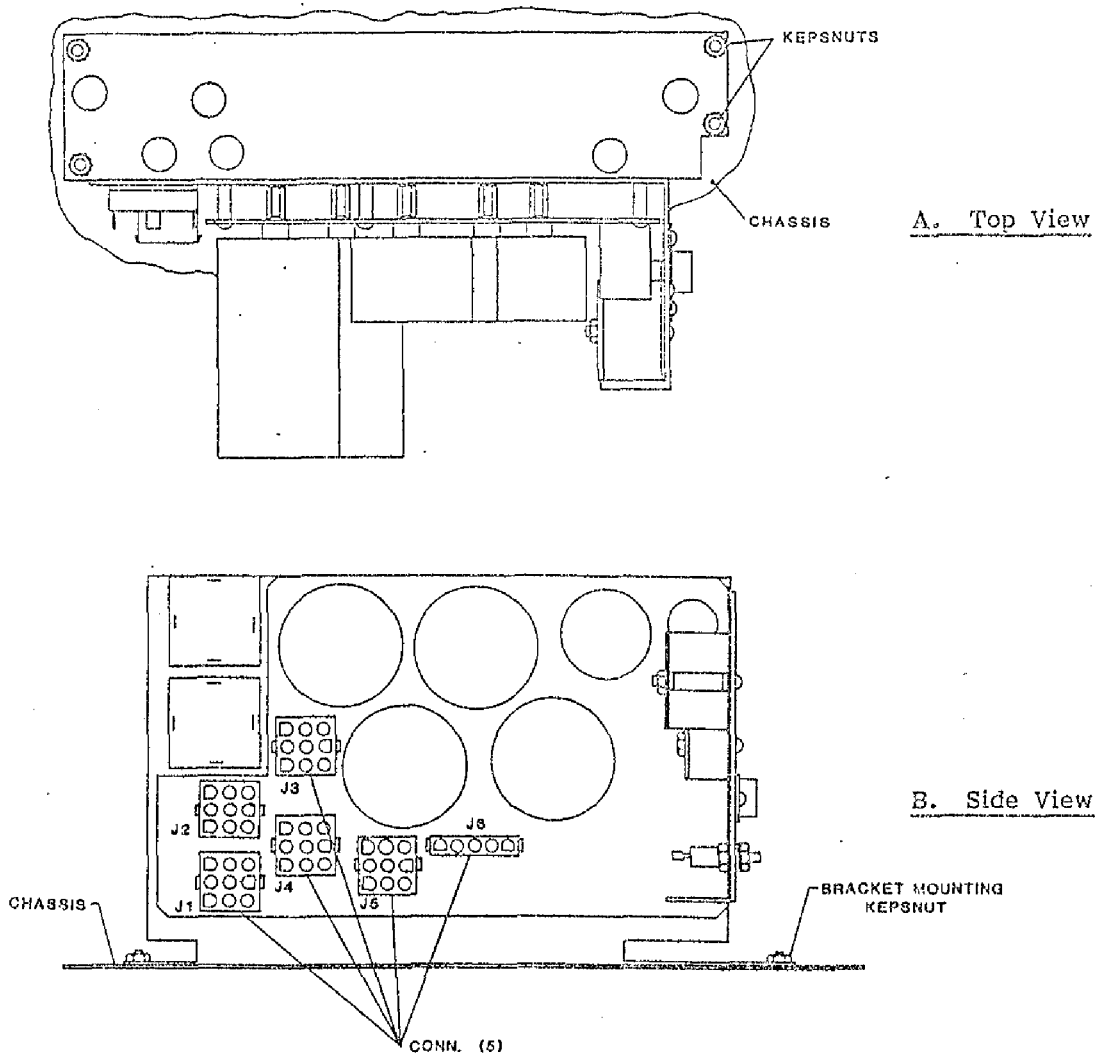

Figure 5-15. 5-VDC Regulator Power Supply
5.3.19 5-VDC REGULATOR POWER SUPPLY (Fig. 5-15)
- B. Unplug the five connectors indicated in Figure 5-15 from the Power Supply.